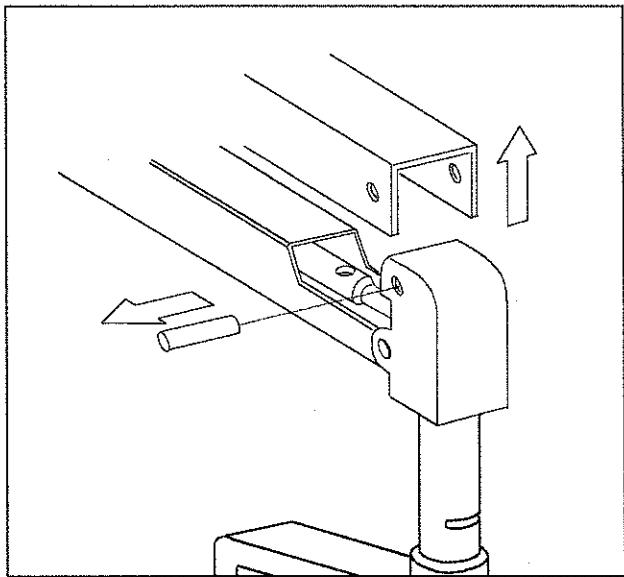

Figure 22 Second arm balancing - 1
- c) Remove screw and pin, then lift the cover in a convenient position for working, but let it maximum horizontal in order do not damage the paint (see Figure 22 on page 41).